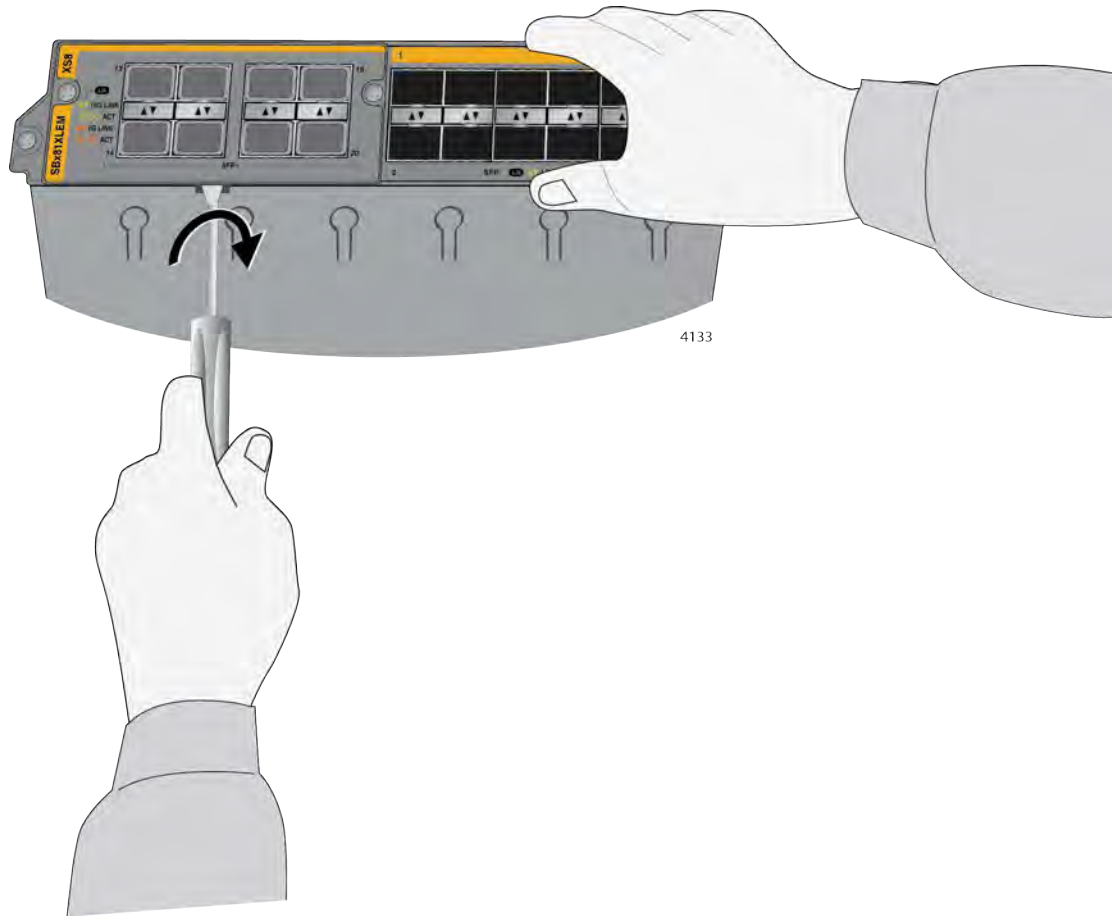

Figure 177. Disconnecting the Expansion Module from the AT-SBx81XLEM Line Card
5. Lift the front of the line card and carefully insert the tip of a flathead screwdriver into the slot beneath the expansion module on the bottom panel. Gently twist the screwdriver to disconnect the module from the connector in the line card. Refer to Figure 177.